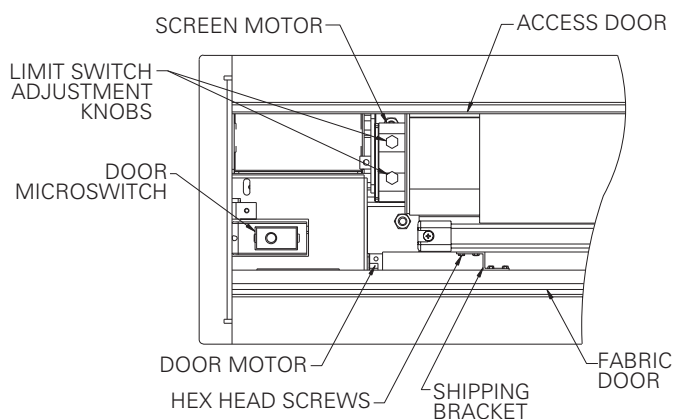

FIGURE 2
6. Remove shipping brackets by removing the hex head screws from aluminum slat and case. Slat should move freely. See figure 2. (Only if the roller assembly is preinstalled.)
2. When the screen stops, turn the white "down" limit knob (Fig. 2) one-quarter turn counterclockwise. Test by raising picture surface approximately two feet, then lower again. Repeat until desired picture surface position is attained.
3. Turn the white "down" limit switch (Fig. 2) one-quarter turn clockwise. Test by raising picture surface approximately two feet, then lower again. Repeat until desired picture surface position is attained.